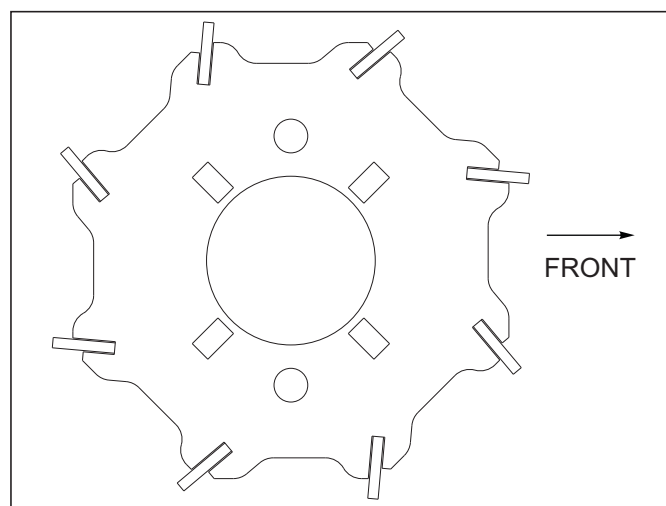

Figure 4-13: Flat Reel
5. The 12" diameter reel consists of nine 3/4" diameter round bars with a chevron shape for smoother rotation. The reels have no inner shaft to reduce plugging in wetter conditions. The reels operate independently of the 3 row spike with two spring loaded arms per reel to maintain consistent down pressure. A 12" diameter spiral wound reel with 1/4 s 1-1/2 angled blades is also available. The blades on flat bar reels are angled for more aggressive action. Install the reels as shown See Figure 4-13.